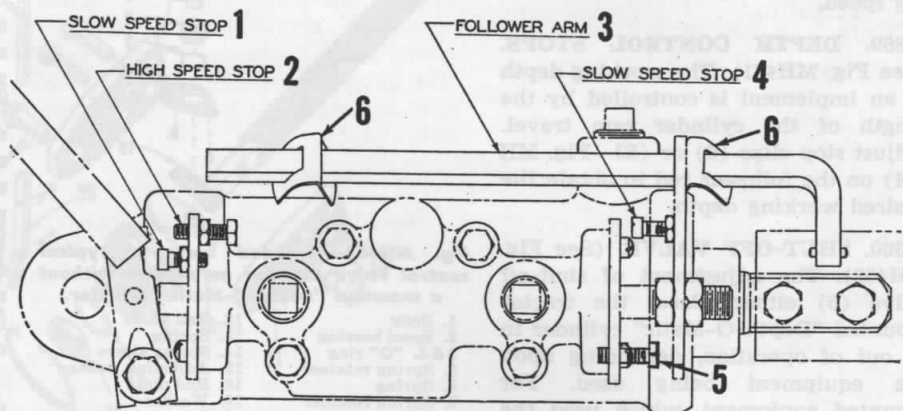

Fig. MH461—"Depth-O-Matic" cylinder, showing points of adjustment.
354. **FOLLOWER ARM.** (See Fig. MH461). Straighten follower arm (3), if necessary, so that the arm remains parallel with the cylinder throughout its full range of travel.
**357. HIGH SPEED STOP.** (See Fig. MH461). The high speed stops (2 & 5) are located at each end of the valve body. These stops control the length of movement of the control lever and control valve. Normal factory adjustment of the high speed stops provide full stroke of the ram in 3 to 4 seconds. The screws can be adjusted to give faster or slower action if desired.
**357A. USING A HIGH LIFT SHAFT.** To operate the ram at a faster speed, adjust stop screw (5) until the desired raising speed of the implement is obtained; then, adjust stop screw (2) so that with the heaviest implement attached, the lowering speed of the implement is not faster than the raising speed. Note: If the lowering speed is too fast, the control handle will return to neutral position before the implement reaches the desired depth.
**357B. USING A LOW LIFT SHAFT.** To operate the ram at a faster speed, adjust stop screw (2) until the desired raising speed of the implement is obtained; then adjust stop screw (5) so that the lowering speed of the implement is not faster than the raising speed. Note: If the lowering speed is too fast, the control handle will return to neutral position before the implement reaches the desired depth.
**358. SLOW SPEED STOPS.** (See Fig. MH461). The valve should normally be operated in the high speed position; however, slow speed stops are provided to facilitate operation in some cases. The slow speed stops are controlled the same as the high speed stops as follows:
**358A. USING A HIGH LIFT SHAFT.** The low speed stop (4) controls the raising speed of the implement. Low speed stop (1) controls the lowering speed.
**358B. USING A LOW LIFT SHAFT.** The low speed stop (1) controls the raising speed and stop (4), the lowering speed.
**359. DEPTH CONTROL STOPS.** (See Fig. MH461). The working depth of an implement is controlled by the length of the cylinder ram travel. Adjust stop clips (6) or (53—Fig. MH464) on the follower rod to obtain the desired working depth.